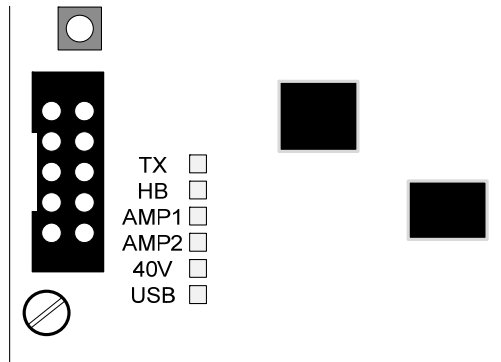

Figure 5 – Amplifier Status LED's
There are six (6) onboard LEDs associated with the amplifier module (see figure 5).
1. Transmit (TX): Flashes when sending data via USB port.
2. Heart Beat (HB): Flashes to indicate proper microprocessor operation.